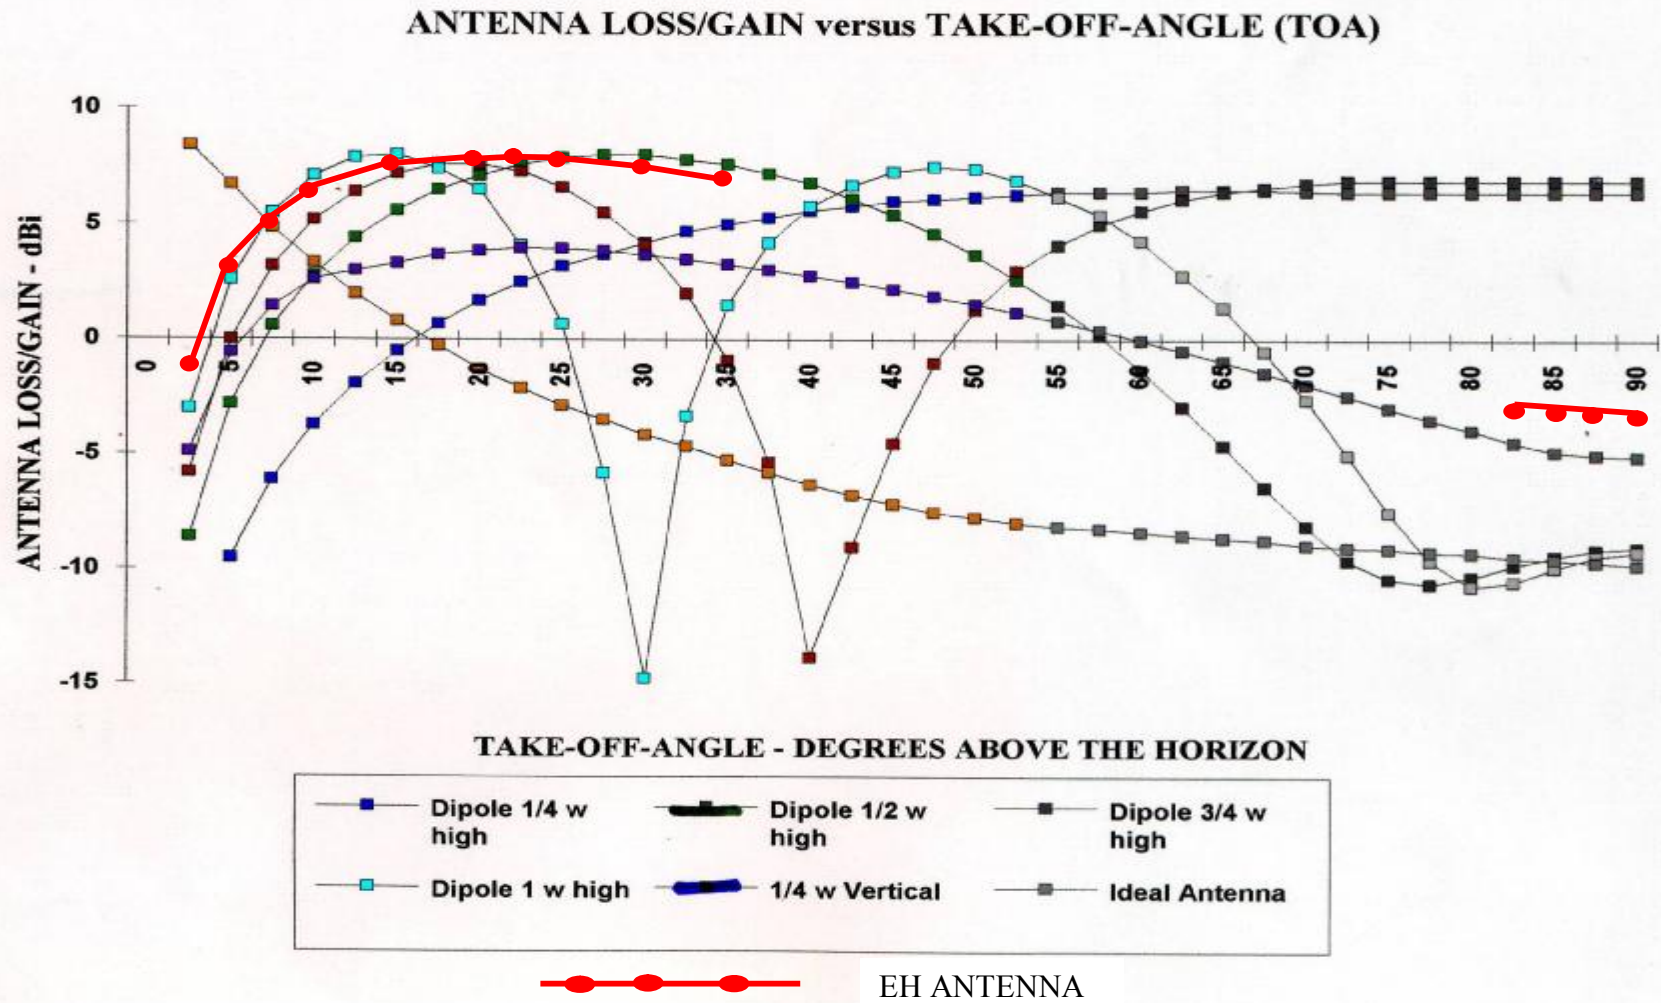

FIGURE 6 – RADIATION PATTERNS OF VARIOUS ANTENNAS
To put the radiation pattern of a EH Antenna in proper perspective, please see Figure 6 on the following page. The patterns of standard antennas were derived using a MININEC computer program. The layout may not be familiar to the reader, but it clearly shows the relevant information. Begin by looking at the pattern for a dipole $\frac{1}{4}$ wavelength high. The radiation at 90 degrees (straight up) is very good, and falls off at lower take off angles. Dipoles at $\frac{1}{2}$ wavelength high do not perform well at high angles, but give increased radiation at lower angles. As the dipole is raised higher, nulls in the pattern begin to appear. The shape of these patterns (peaks and nulls) apply to horizontal beams; their horizontal beamwidth is narrowed by a factor of the antenna gain. The pattern of a $\frac{1}{4}$ wave vertical is also presented. These are ideal patterns, not necessarily what you would expect from your backyard antenna. In particular, if there are buildings blocking the desired direction, the calculated pattern can not be realized in practice. Patterns for the horizontal dipoles are broadside to the dipole. There is a null off the end, making the dipole pattern directional in the horizontal plane. Also, the pattern assumes 120 radials surrounding the vertical.
Where does the EH Antenna fit into this picture? For a 12:1 Length/diameter ratio the EH Antenna (at very high angles) has a gain of about -8 dB to -10 dB compared to a $\frac{1}{2}$ wave dipole $\frac{1}{4}$ wavelength above ground, when it is mounted vertically. For an L/D ratio of 3, at low angles the EH Antenna is about 4 dB over a $\frac{1}{4}$ wave vertical. We have drawn relative performance curves for the two EH Antenna configurations using red circles and red lines on the plot of Figure 6. It is an excellent antenna for low angle (DX) radiation. The plot assumes a height of $\frac{1}{4}$ wavelength for the DX antenna. However, at a height of 0.1 wavelengths the gain would only be reduced about 4 dB, essentially making it equal to a $\frac{1}{4}$ wavelength vertical with 120 radials.